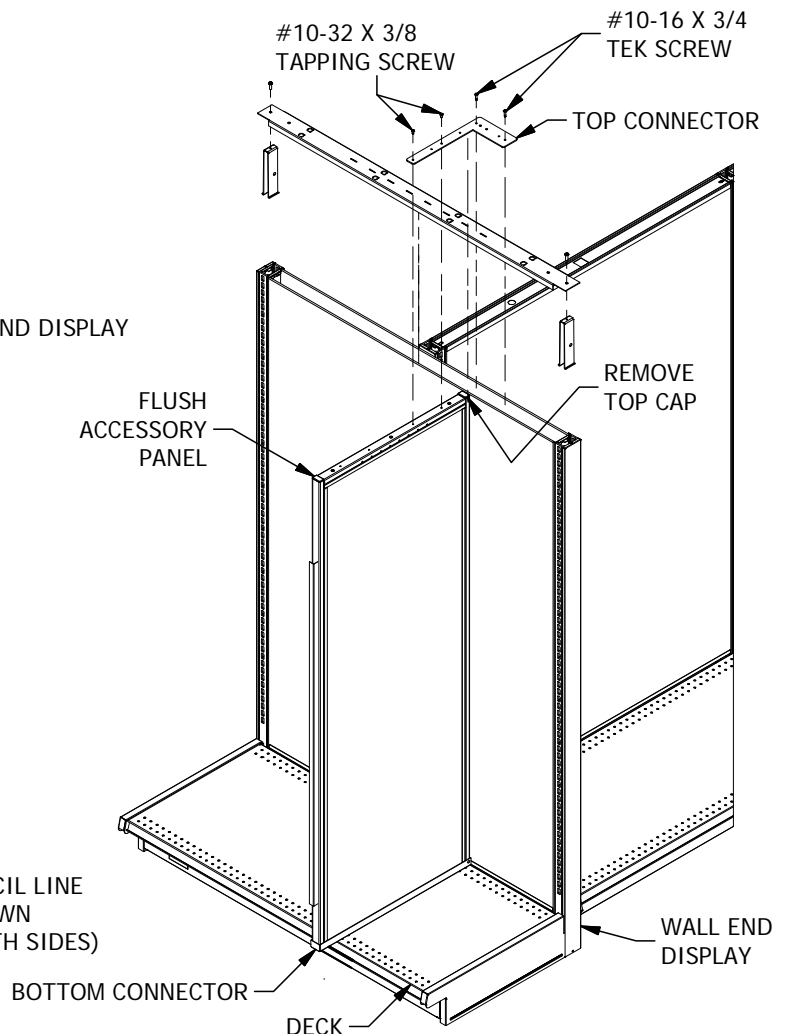

FIGURE 2
STEP 3: Place flush accessory panel back into bottom connector. Install the top connector by aligning the top connector holes with pilot holes in the flush accessory panel and securing with two #10-32 x 3/8 tapping screws. Then, fasten the top connector to the WEDER with two #10-16 x 3/4 TEK screws (reference Figure 2).